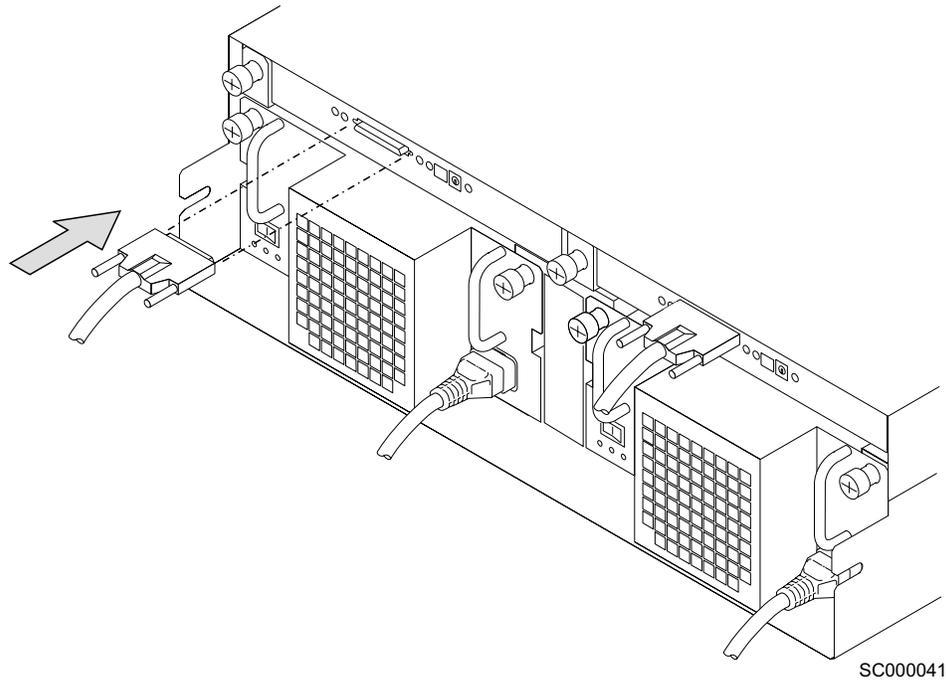

Figure 77. Plugging in the SCSI cable
8. Plug the SCSI connector into the SCSI Interface card, and tighten the retaining screws. See Figure 77.